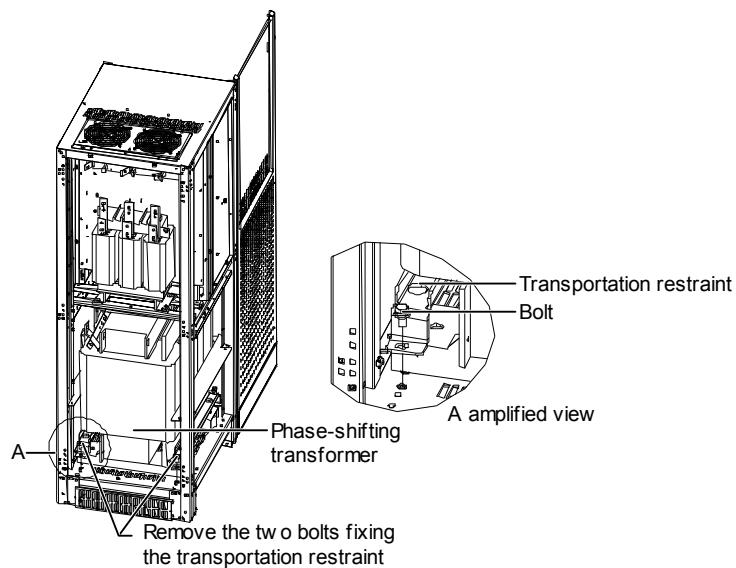

Figure 11 Removing the two transportation restraints at the back
3. Remove the two transportation restraints at the back of the phase-shifting transformer, as shown in Figure 11.